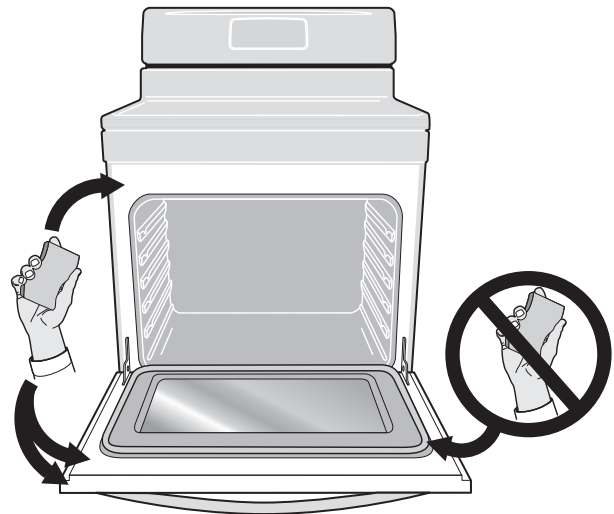

Fig. 12 Areas to clean and to avoid
- Do not use oven cleaners or oven protective coatings in or around any part of the oven interior. Clean any soil from the oven frame, the door liner outside the oven door gasket and the small area at the front center of the oven bottom (Fig. 12, on page 18). These areas heat sufficiently to burn soil on. Clean using soap and water prior to starting Self Clean.